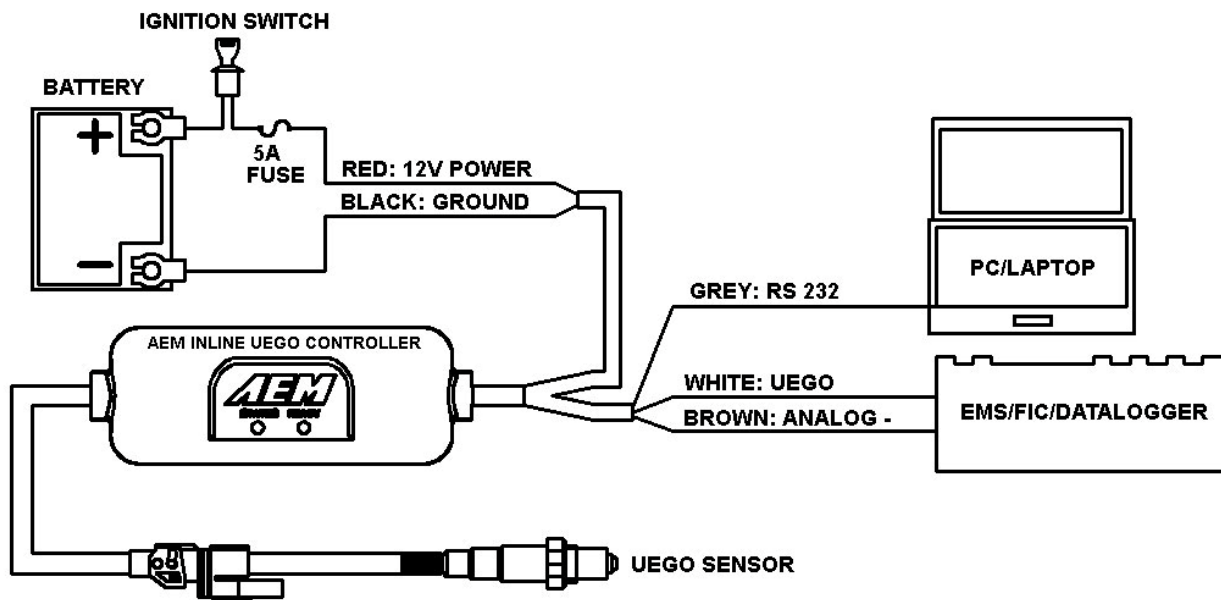

Figure 1. Wiring Schematic
3. Connect the flying lead wires as shown in Figure 1.